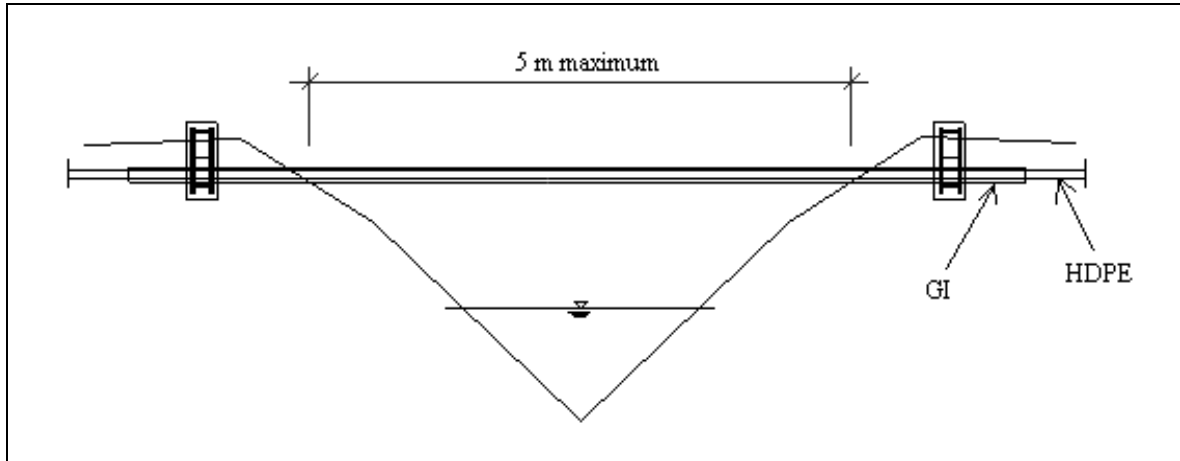

Fig.22: Crossing a gully or a river with a length lower than 5m
- If the length is less than 5m, the use of GI pipe is recommended. GI pipe are indeed self-supporting over a length of 5m. In the case of a plastic pipeline, GI pipe can be used as sleeve. In this case it is important to anchor the ends of galvanized-pipe in concrete blocks as illustrated in the figure 22.